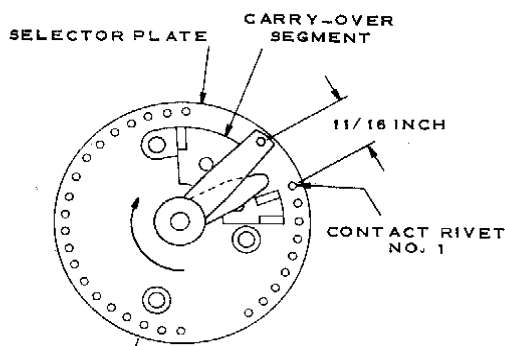

Figure 22. Wiper Arm Radial Adjustment.
2. Set the contact arm on the shaft so that center of outermost contact of the arm is approximately $11/16$ " away from the center of the first contact on selector plate, see *Figure 22*.
* Contacts "WD", "WF", "WG", and "WK" close before innermost contact of wiper arm leaves carryover segment on selector plate assembly. (Figure 22)
† Contacts "WD" remain closed until after innermost contact of wiper arm again reaches carryover segment on selector plate assembly. (Figure 22)